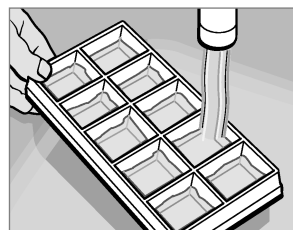

Fig. 31
- Unlock the freezer compartment door using a screwdriver (Fig. 31).